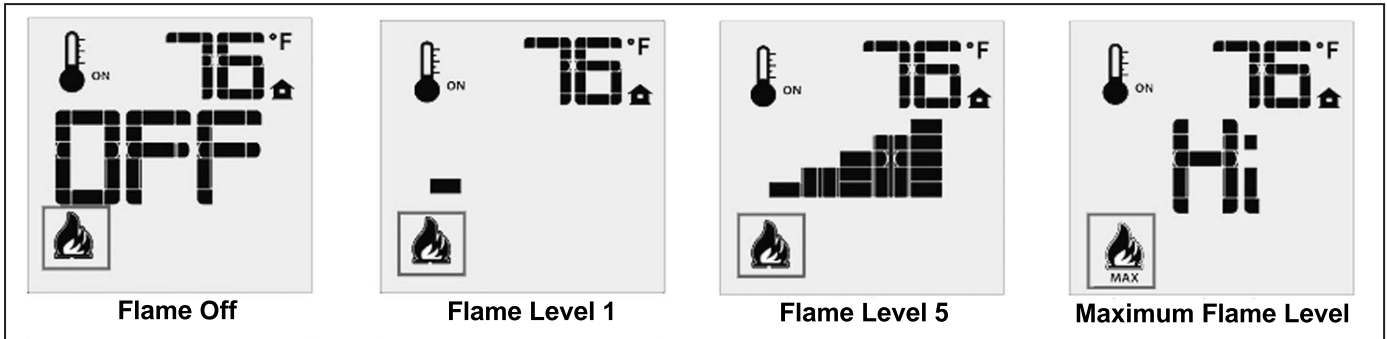

Figure 11: Remote Control's Flame Levels.
The Proflame 2 GTMF has six (6) flame levels. With the system on, and the flame level at the maximum in the appliance, pressing the Down Arrow Key once will reduce the flame height by one step until the flame is turned off. The Up Arrow Key will increase the flame height each time it is pressed. If the Up Arrow Key is pressed while the system is on but the flame is off, the flame will come on in the high position (refer to Figure 11 below). A single “beep” will confirm reception of the command.